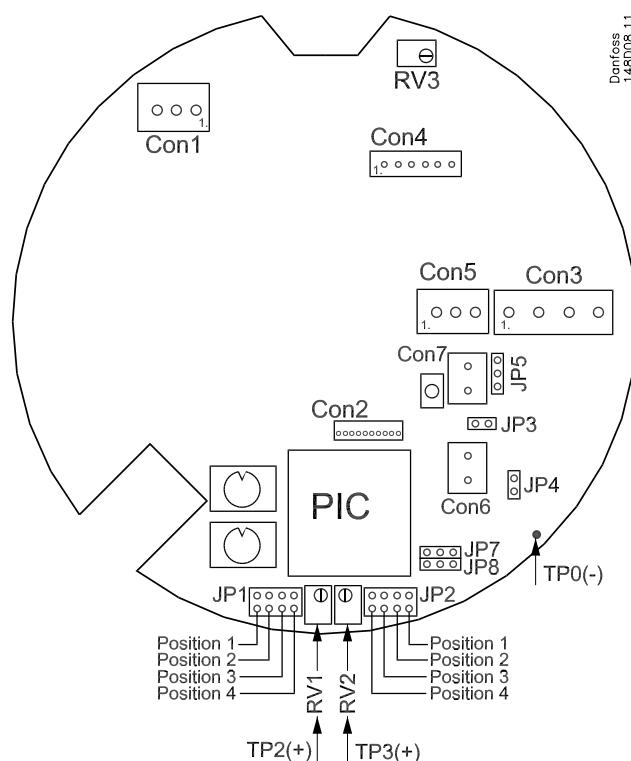

fig. 7
**Adjusting Low/High alarm values (fig. 7)**